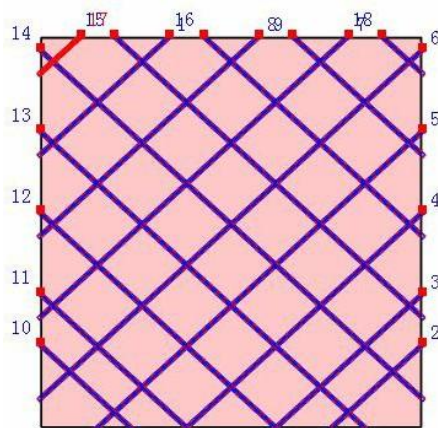

Figure 1
2. As shown in Figure 1, use this tool to frame the sewing lines to be arranged, and click the starting sewing line close to the starting point, and the [Automatically arrange sewing order] dialog box will pop up;